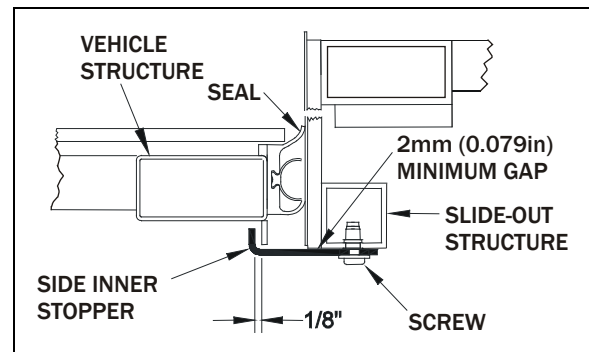

FIGURE 3: SIDE INNER STOPPER ADJUSTMENT
1. Adjust the side inner stoppers at 1/8" from the vehicle side structure keys, and tighten the screws. Make sure there is a minimum gap of 2mm (0.079") between the side inner stopper and the side window pane (Figure 3). Use shim as required.